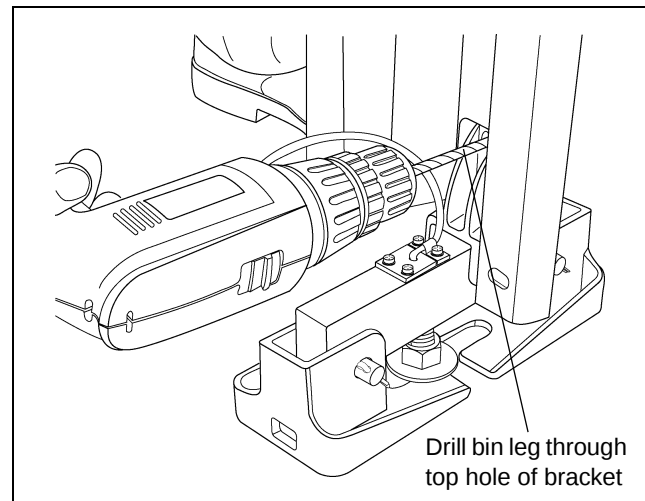

Figure 4J Drill top hole through bin leg, using top bracket as a guide.
4. Fasten load cell top bracket to the bin leg using bolt, washer and nut through the slot in the bracket. (See Figure 4J.)